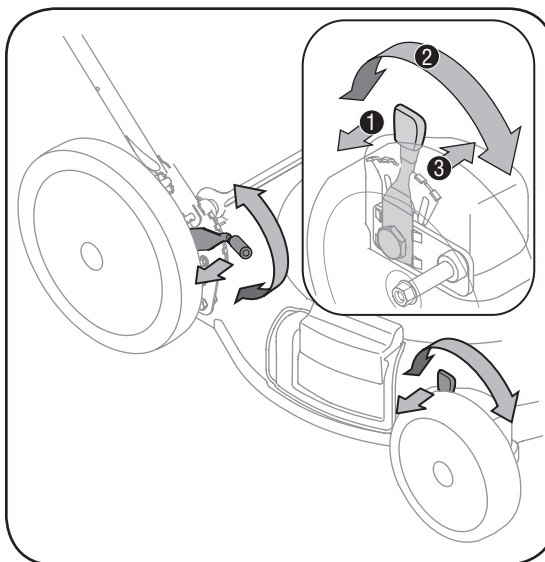

Figure 6
6. Each wheel has a height adjustment lever to change the cutting height of the mower. To change the height of cut, squeeze adjuster lever toward the wheel, moving up or down to selected height. See Figure 6.